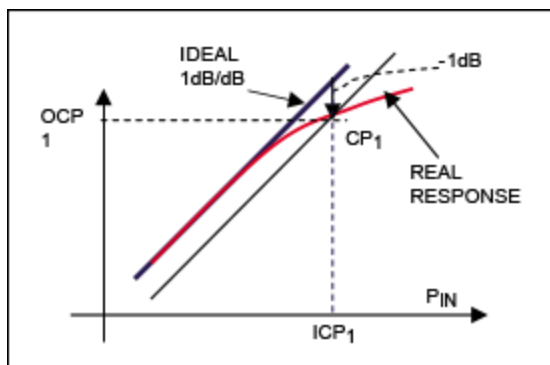

Figure 13. Graphical view of a -1dB compression point.
As mentioned in the introduction, IPn is the only way to characterize a device's linearity. The -1dB compression point (CP) is also a figure of merit for measuring nonlinearity. Graphically (**Figure 13**), it is the point where the actual input-output response curve deviates (i.e., drops) by 1dB from the linear asymptote.